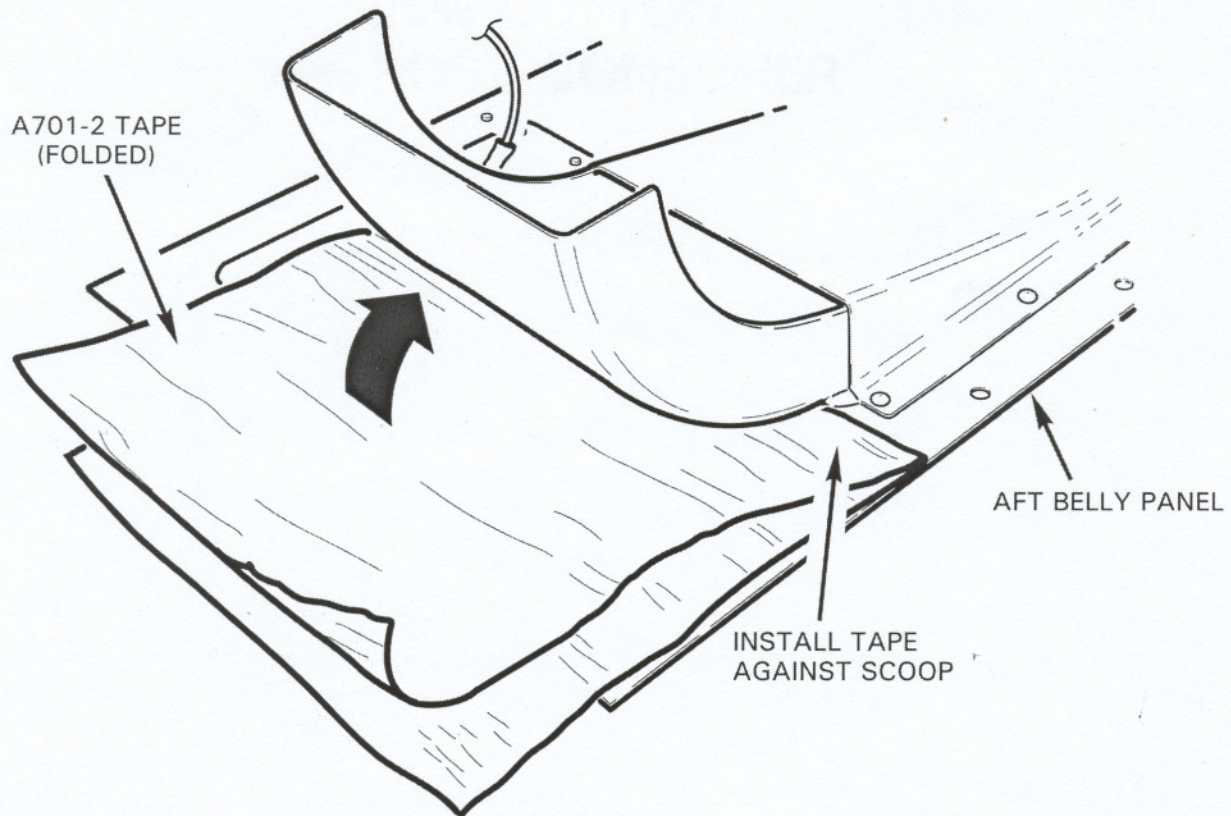
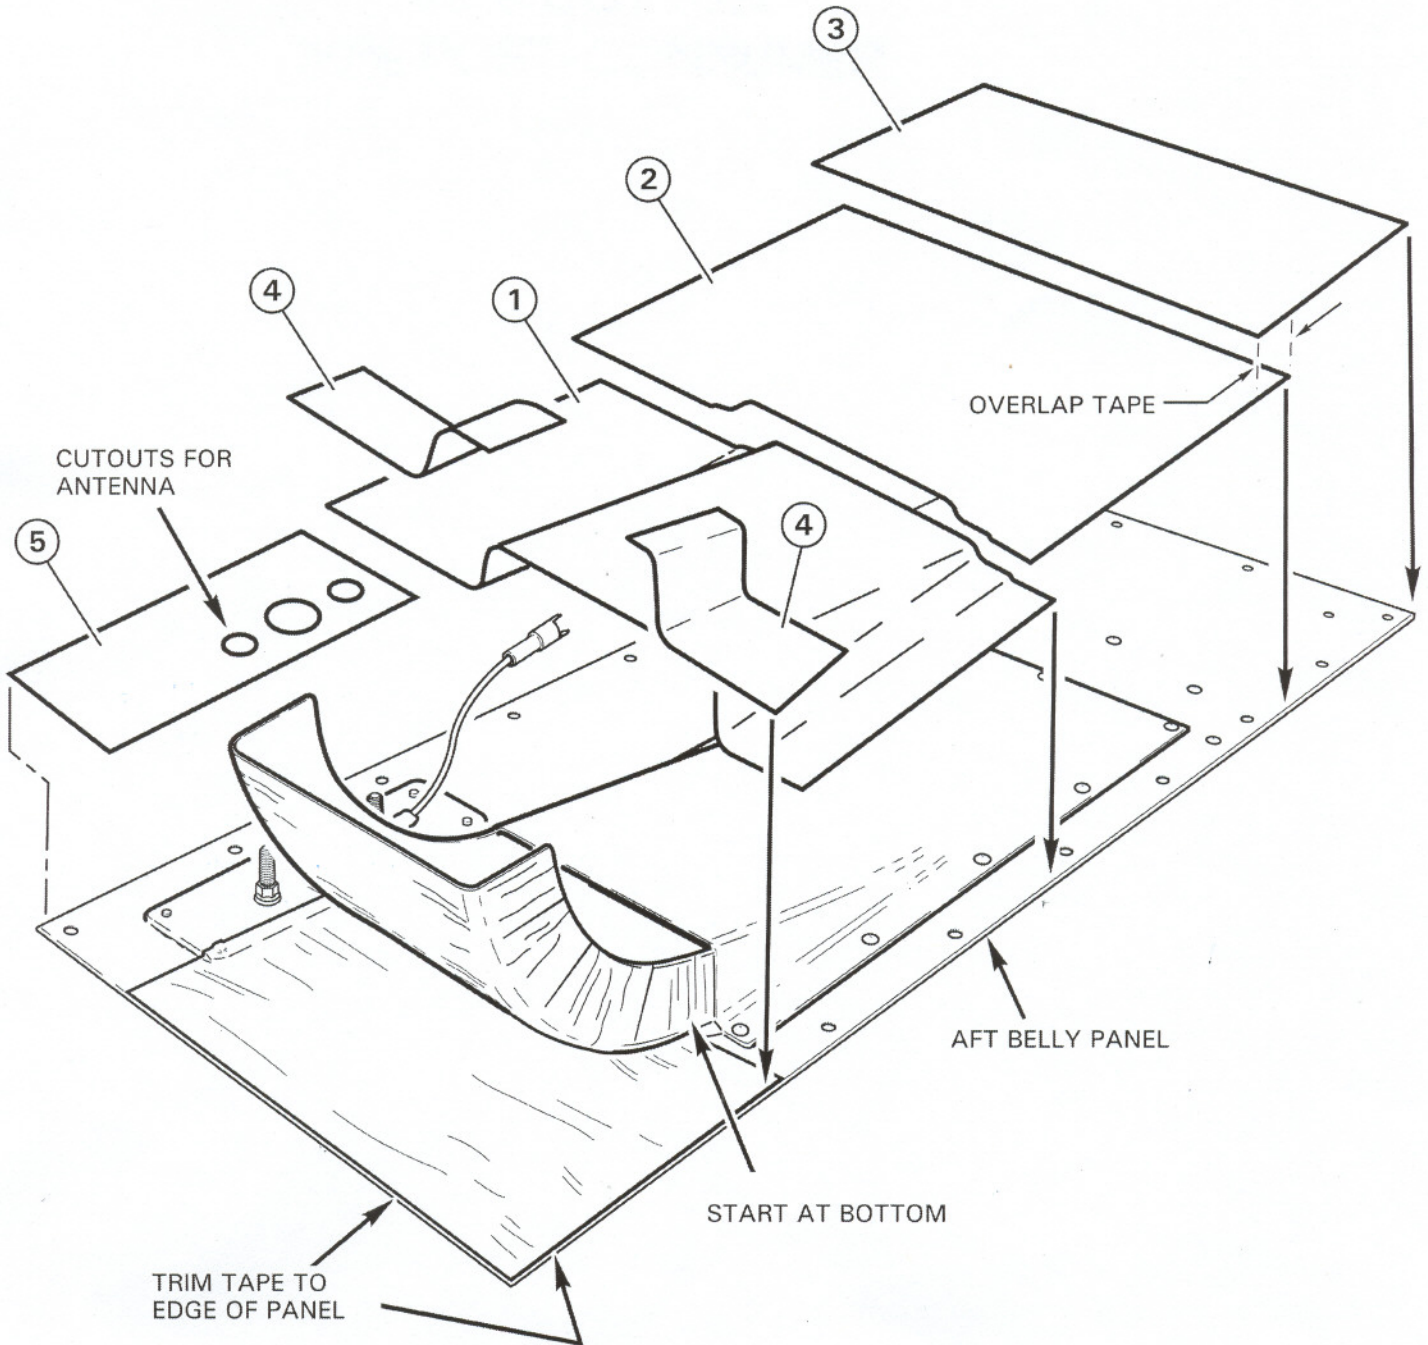

FIGURE 7 SCOOP SHIELDING
FIGURE 9 BELLY PANEL SHIELDING
11. Refer to Figures 7, 8, and 9. Apply A701-2 tape to aft belly panel scoop, then, in sequence, to remainder of panel per Figure 9. Trim tape to edge of belly panel and scoop. Tape should not be visible from exterior when properly trimmed.